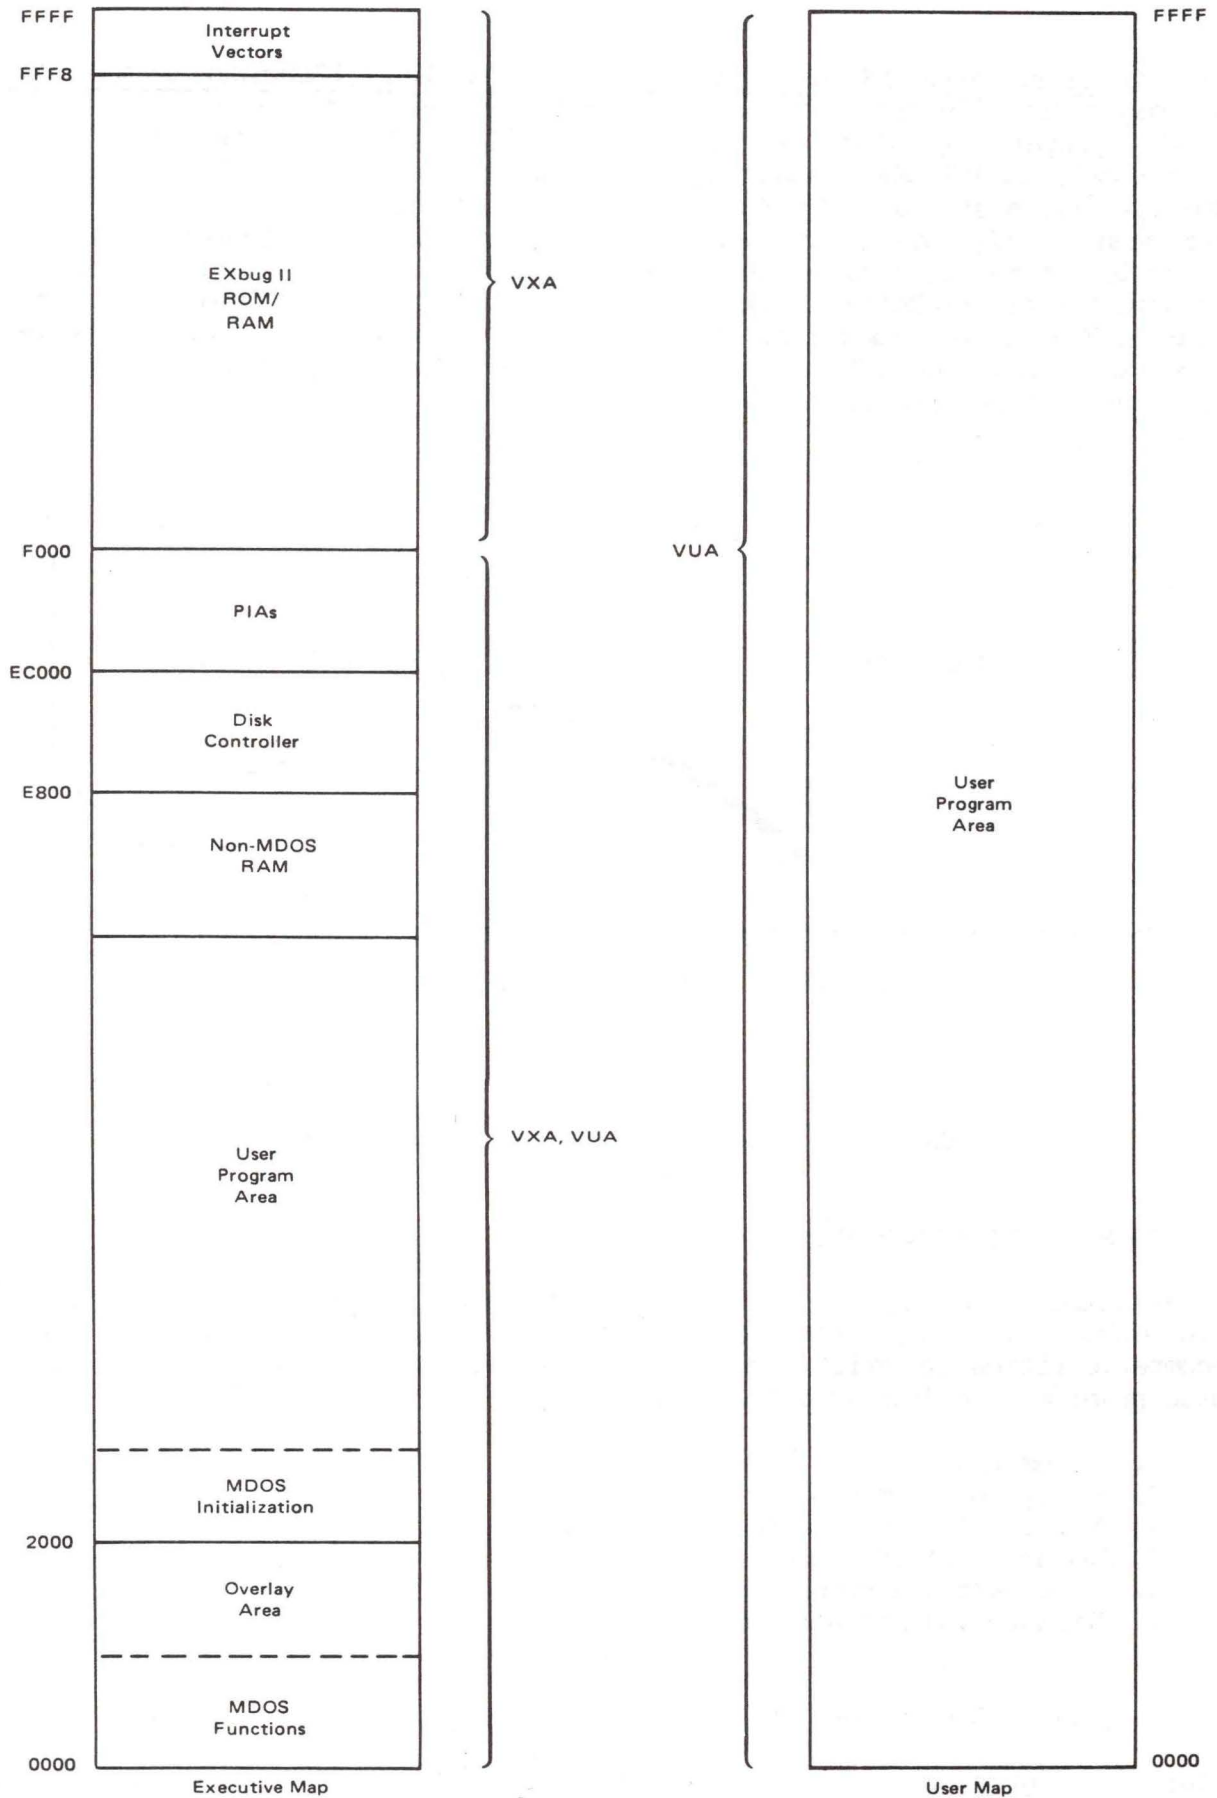

FIGURE E-1. Dual Memory Map for User System
E.1.2.2 EXORciser II. Because some users start their designs and actually have hardware built before they realize they need a development system (or possibly because they do not understand how the EXORciser can be used), the concepts are expanded in EXORciser II to provide a dual map. The DEbug II Module provides the ability to address two separate 64K-maps, as illustrated in Figure E-1. The DEbug II module uses the Valid Memory Address (VMA) signal from the MPU II module and converts it to two signals -- Valid User Address (VUA) and Valid Executive Address (VXA). The memory and I/O modules for this system have jumpers which allow them to be used with either signal, thus providing two complete maps. EXbug resides in the executive map, along with the floppy disk controller and printer interface, leaving the entire user map available. A switch is provided on the DEbug II module to select single map mode and can be used in the same way as EXORciser I. All memory above \$F000 is enabled by VXA; all memory below \$F000 is enabled by VUA.